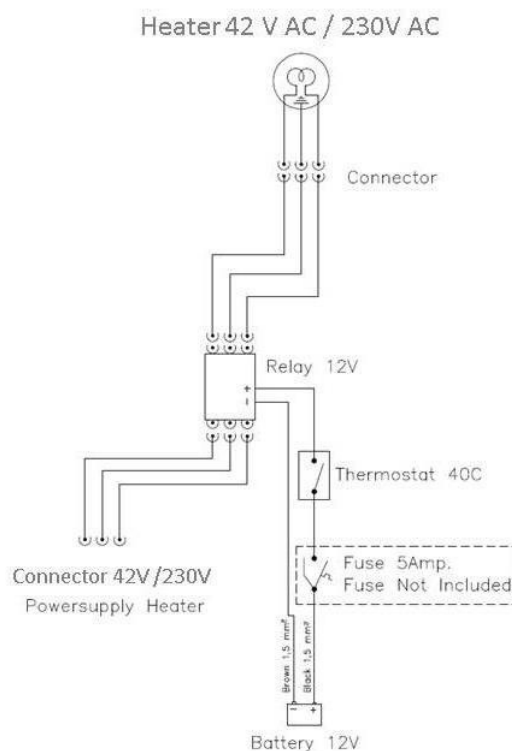

Fig 12.1
- If the new heater element does not work, check the thermostat Fig 12.3 and replace if defective. See wiring diagram below, Fig. 12.1